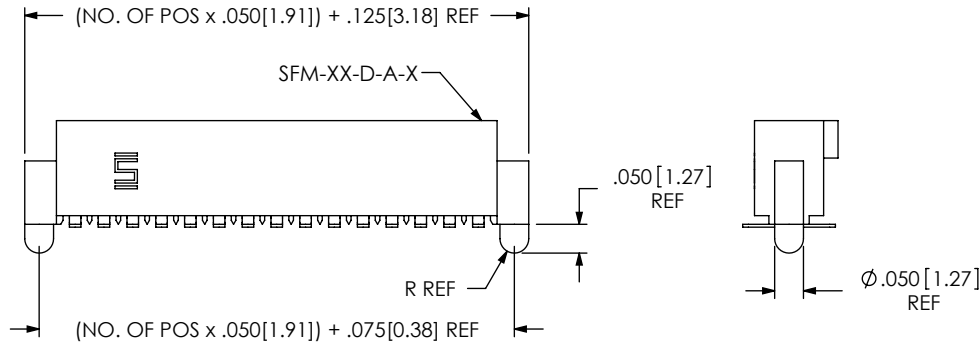

FIG 4
-A: ALIGNMENT PIN (USE SFM-XX-D-A-X) (SEE FIG. 4, SHT 2)